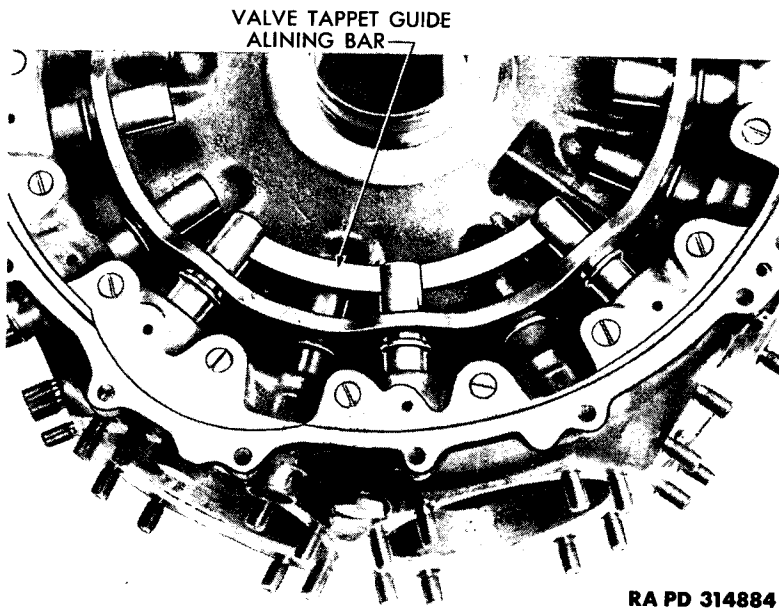

Figure 91 – Valve Tappet Guide Alining Bar 41-B-332
(2) **REPLACE VALVE TAPPET GUIDES.** Drill out valve tappet guide until a shell approximately 0.015 inch thick remains. Break out remaining shell, being extremely careful not to mar the guide bore in the crankcase. Pick replacement guide. Shrink guide in dry ice or ice water. Place crankcase section in oven and heat to 300° F. Replace guides with rear main bearing if bearing needs to be replaced (par. 19 a). Remove crankcase from oven, and insert guide in guide opening. Aline slots at the inner end of the guide with alining bar (41-B-332) (fig. 91). Be sure that the guide flange is bottomed in its recess.